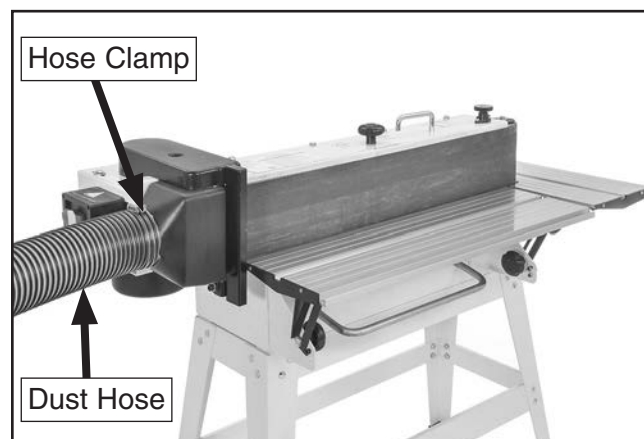

Figure 22. Dust hose attached to dust port.
- Fit 4" dust hose over dust port and secure in place with 4" hose clamp (see **Figure 22**).